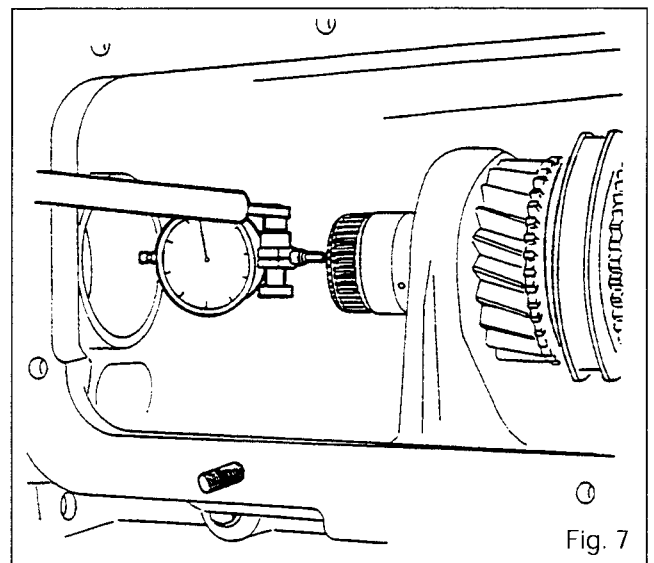

Fig. 7
33. Position the tip of a dial gauge on the end of the shaft (Fig. 7).